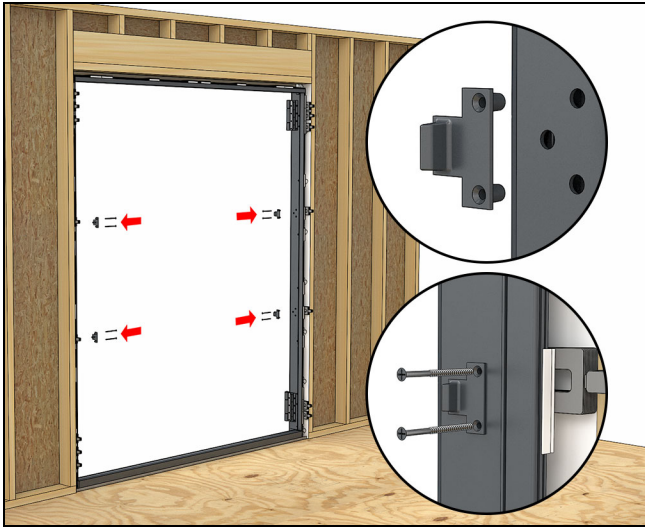

Figure 50
15. Install the panel alignment bolts between the hinges on the frame. Shim the frame at the bolt locations and fasten with #8 x 3" screws. Figure 50.